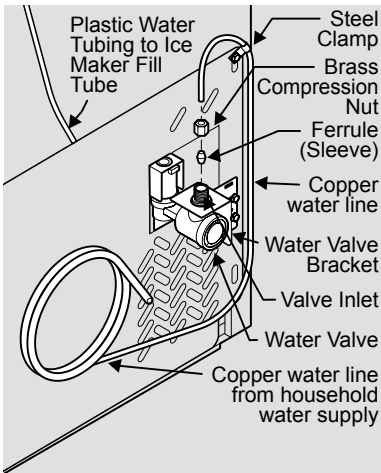

Figure 1
- 4 If you use copper tubing - Slide brass compression nut, then ferrule (sleeve) onto water supply line. Push water supply line into water valve inlet as far as it will go (¼ inch/6.4 mm). Slide ferrule (sleeve) into valve inlet and finger tighten compression nut onto valve. Tighten another half turn with a wrench; DO NOT over tighten. See Figure 1.